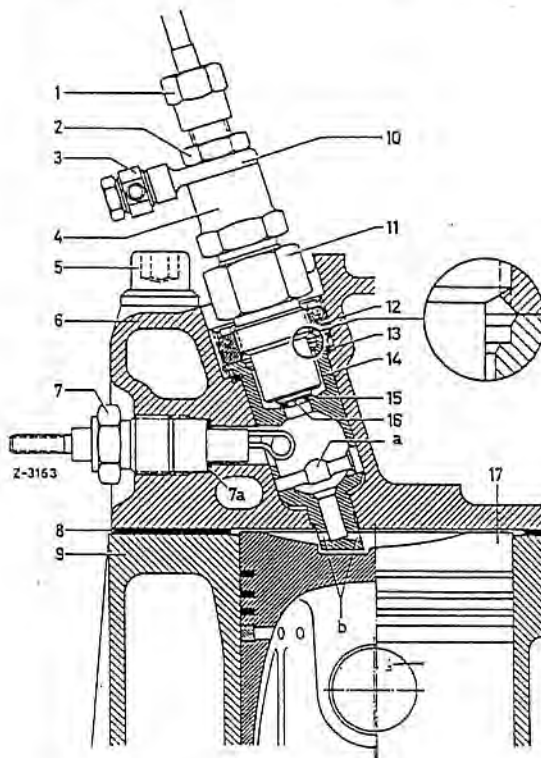

Fig. 07-22/2
4. Turn the engine over with the starter in order to expel any deposits there may be from the combustion chamber. A new seal (15) between nozzle and pre-chamber should always be fitted (Fig. 07-22/2). When this seal is fitted care must be taken to ensure that the cylindrical part fits perfectly into the bore of the pre-chamber and that the threaded ring (12) stands no more than 11 mm high.
5. Install assembly consisting of cap nut (2), nozzle holder (1) and injection nozzle in the pre-chamber and use Socket-Wrench Head 000 589 61 09 00 to tighten to 7-8 mkp (Fig. 07-22/1).